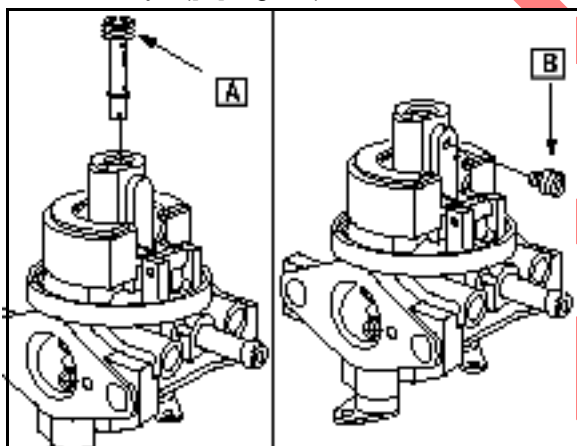

Fig. 69
19. Install the emulsion tube (A) and then the main jet ([B] Fig. 69).
Position bowl drain (A) as shown, Fig.69.